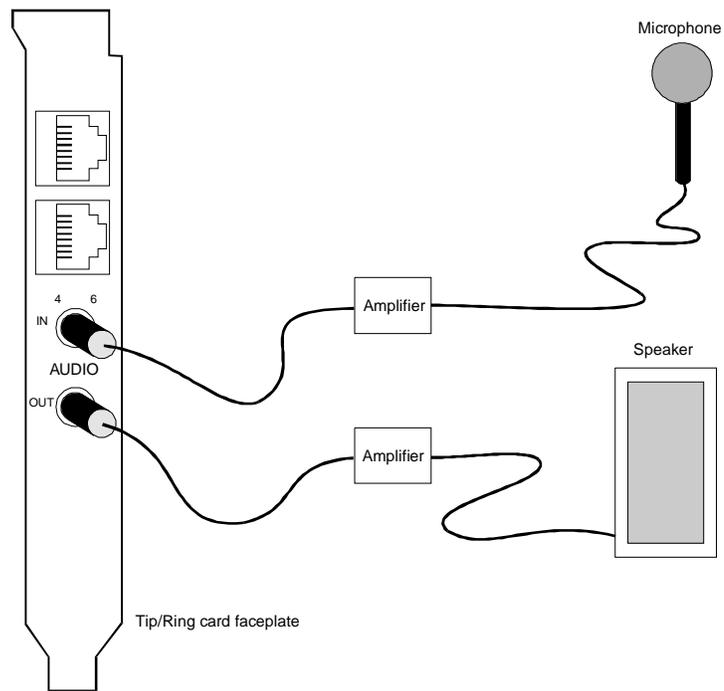

Figure 7-7. Connecting the Tip/Ring Circuit Card and Graphical Speech Editor
2. Plug the microphone cable into the AUDIO IN jack on the faceplate of the Tip/Ring circuit card (Figure 7-7). This connection dedicates line 0 of the Tip/Ring circuit card.